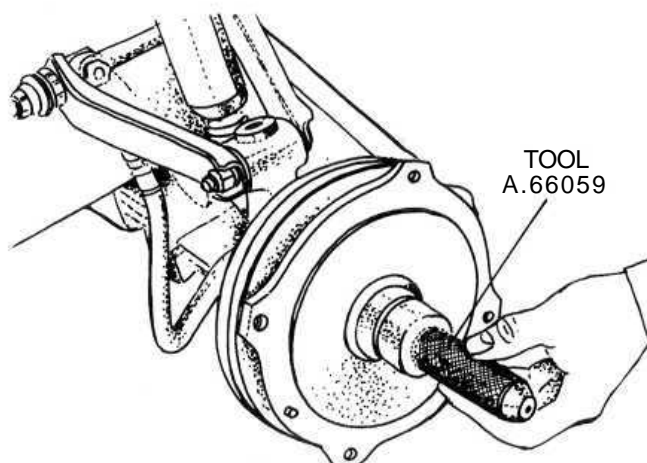

FIG 8:13 Installing right front wheel hub cap by tool A.66059
- 2 Firmly clamp the lower shank of the shock absorber in a vice and telescope upwards the outer casing and using Fiat wrench A.56024 unscrew the upper threaded ring **3** (see **FIG 8:11**).